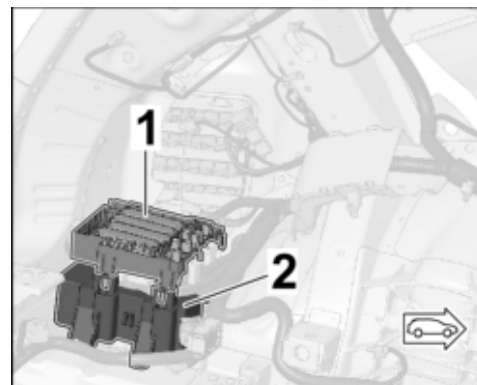

Figure 12
- 2.1 Loosen retaining frame fuse box in the luggage compartment. ⇒ *Figure 12 ⇒ Workshop Manual '978409A8 Loosening and securing fuse box in the luggage compartment'*
- 2.2 Loosen holder with rear-end electronics control unit. ⇒ *Figure 12 ⇒ Workshop Manual '578919A2 Remove and install control unit for rear-end electronics'*